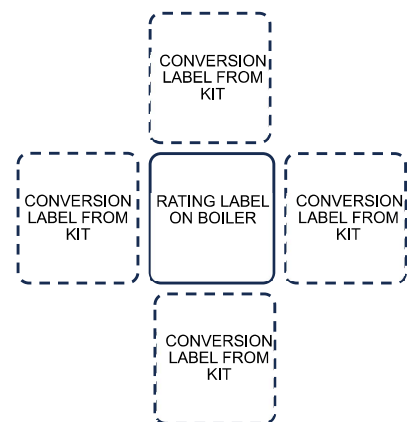

Figure 6: Rating Label Installation
9. Measure carbon monoxide (CO) level in vent after 5 minutes of main burner operation. CO should not exceed 400ppm air free.
11. Complete and attach conversion label supplied with kit beside existing rating label. See Figure 6.